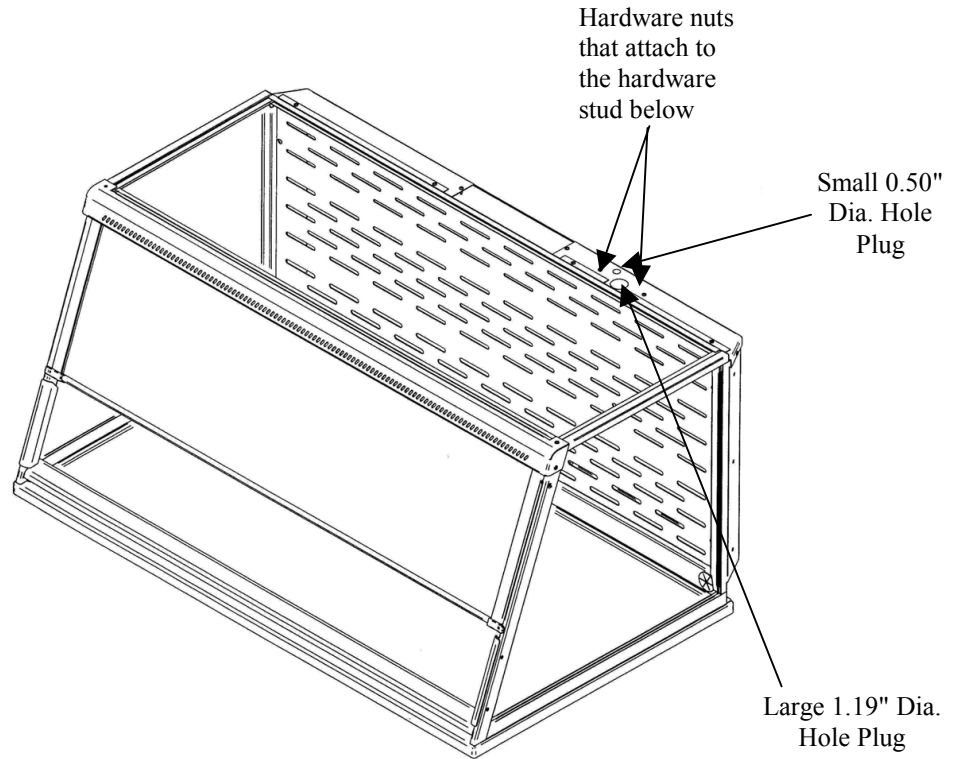
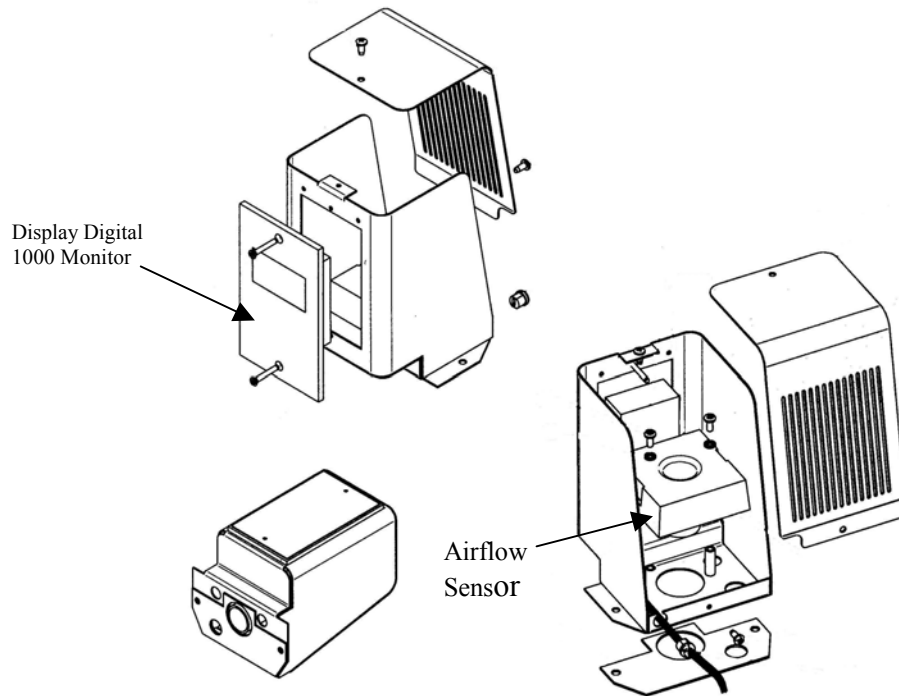

Figure 6-2
Figure 6-5
2. First remove the small 0.50" dia. Gray hole plug and loosen the two hardware nuts from the enclosure. Keep the nuts for step 5. See Figure 6-2.
2. First remove the large 1.19" dia. gray hole plug and loosen the two hardware nuts from the enclosure. Keep the nuts for step 3. See Figure 6-2. See Figure 6-5 only to reference internal assembly of the airflow monitor.